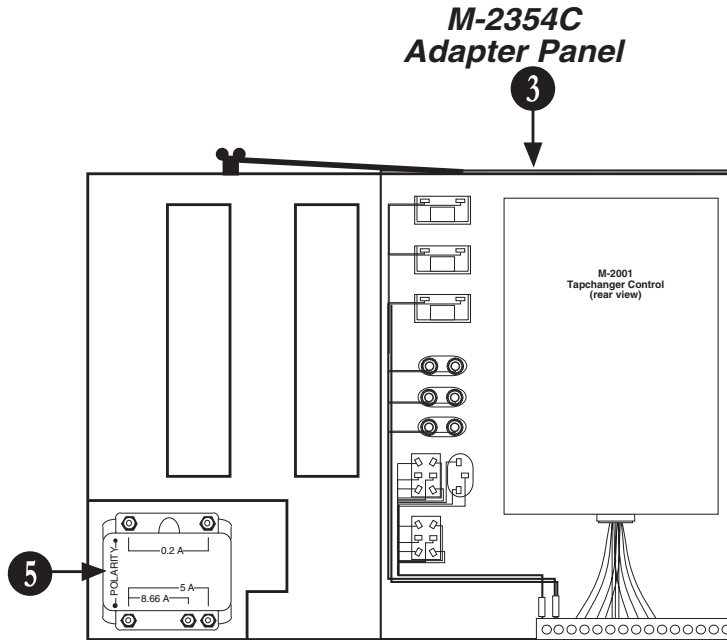

Figure 9 M-2354C Adapter Panel and M-2001 Tapchanger Control in Cabinet
3. Mount the M-2354C Adapter Panel (with the M-2001 Series Digital Tapchanger Control) onto the hinges in the mounting bracket (Figure 9).